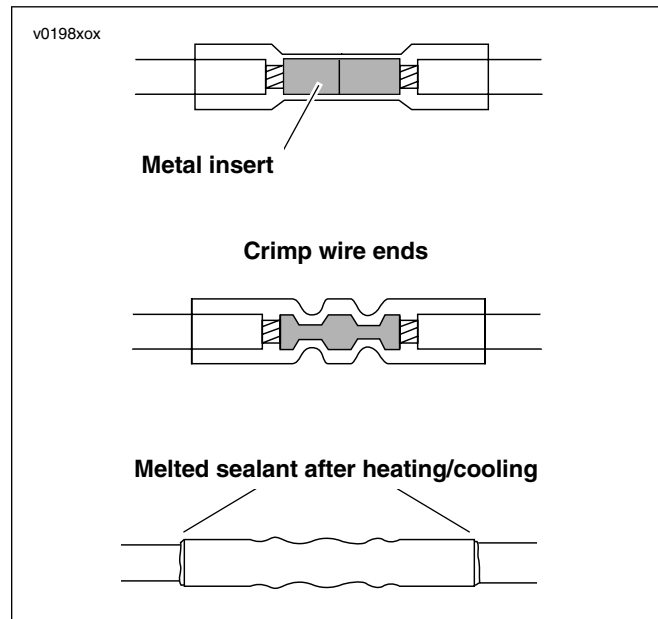

Figure 5-19. Installing Sealed Butt Splice Connectors
- See Figure 5-19. Feed the wire into the butt splice connector until the stripped end contacts the wire stop inside the metal insert.